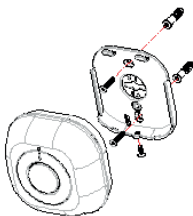
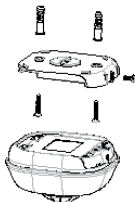

FIGURE 4a
FIGURE 5A
4. Decide if the detector is to be wall-mounted (FIGURE 4a) or ceiling-mounted (FIGURE 5a), based on